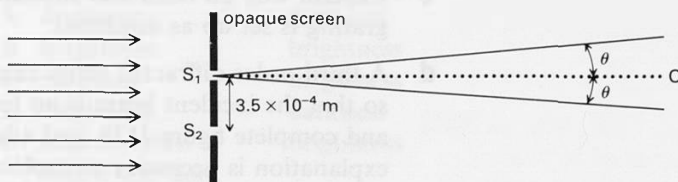

Figure J127
- 31(R)** A parallel beam of light of wavelength $7.0 \times 10^{-7} \text{ m}$ falls normally on to an opaque screen in which there are two parallel and identical slits, S_1 and S_2 , $3.5 \times 10^{-4} \text{ m}$ apart, as shown in figure J127. (Note that the drawing is not to scale.)